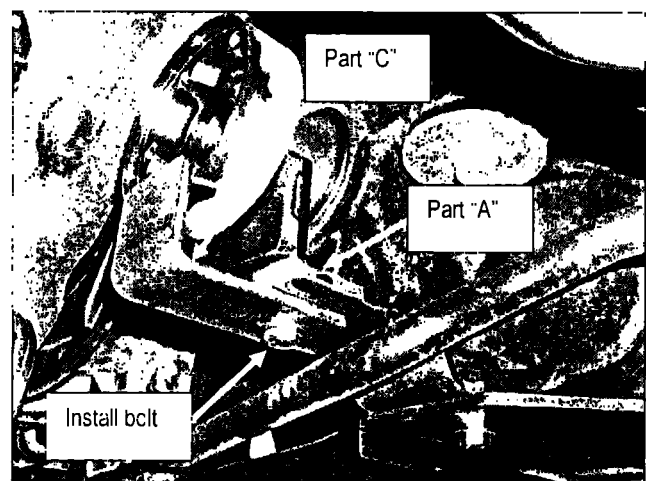

Figure 26
- d. Install jack adapter "part C" as shown in Figure 26.
- e. Install and tighten the bolt that holds "part C" to "part A" as shown in Figure 26.